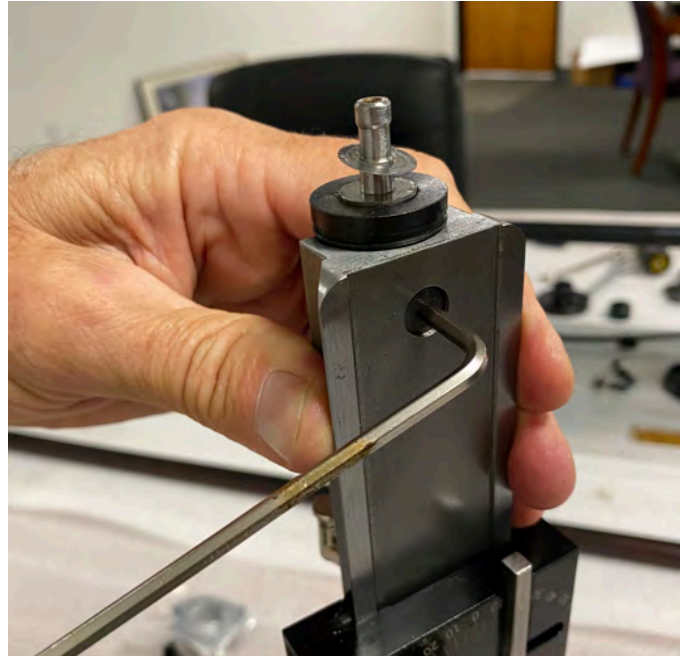

FIGURE 32
5. Remove the 10-32 82° screw from the column bed that holds the column thrust in place. Then remove the column thrust along with all of the shim washers, thrust bearing, and 1/4" washer that is on the bottom of the leadscrew support (see Figure 32).